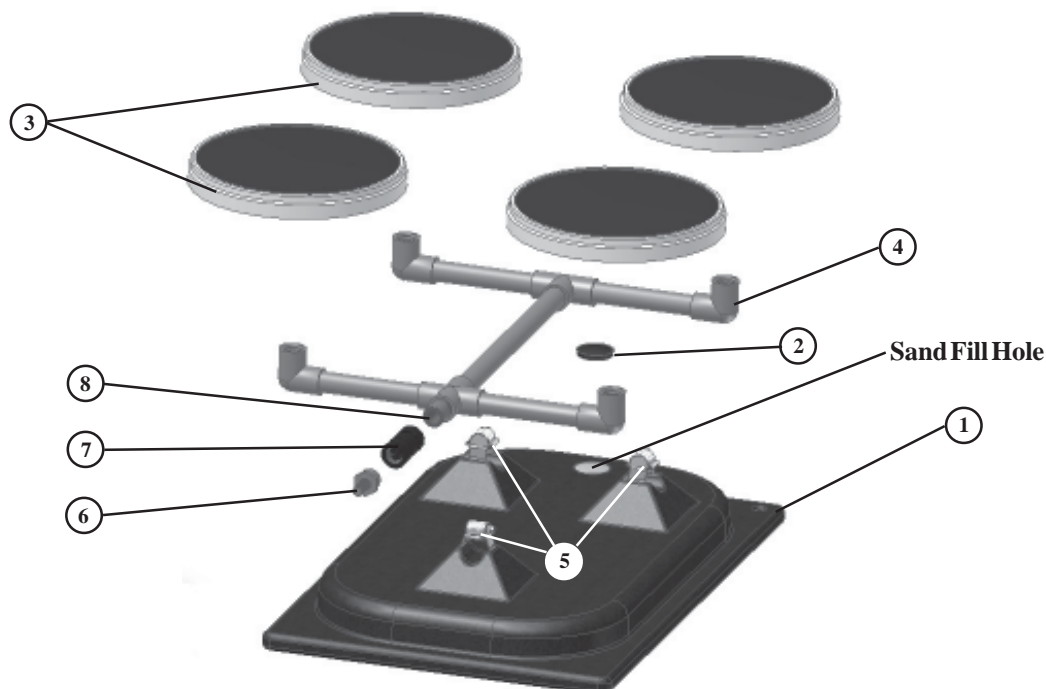

Figure 10b: Exploded View of Dome Diffuser Assembly
1. Fill the Sand Base: The Dome Diffuser Assembly consists of a weighted plastic sand base (1) and a PVC diffuser manifold (4) for the four EPDM bladder type dome diffusers. The diffuser manifold arrives attached to the empty sand base, you will need about 30lb.(0.85kg) sand to fill the base. Stand the base on end with the hole to the top, pour the sand into the hole of the base using a funnel with a large stem. When the base is filled insert the plug provided.
2. Assemble the Check Valve: Thread the check valve (7) on to the pipe nipple (8), the arrows on the check valve indicate the direction of the air flow and must point towards the manifold piping assembly. The check valve will help to prevent the back flow of water into the air line when the compressor is not in operation. Apply thread sealant to the barbed fitting (6) and screw into the check valve, do not over-tighten. (See Figure 10b)